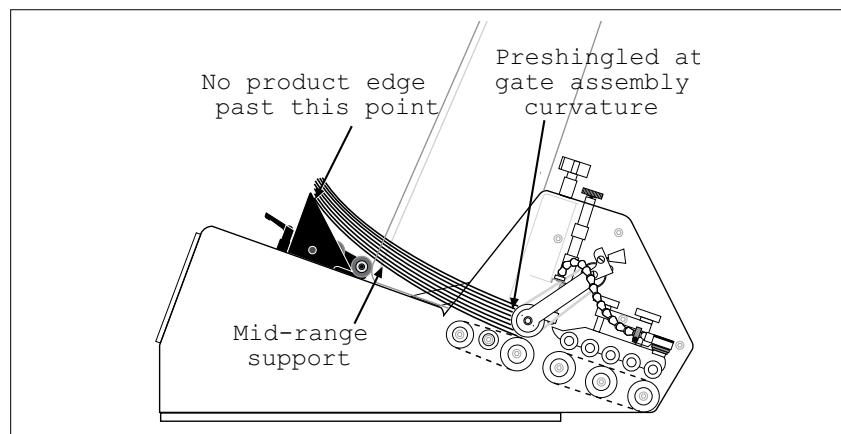

Figure 7-2. Triangle/Low-Profile Wedge Setup
**Setup guidelines:** Adjust so bottom of stack preshingles against the curvature of gate assembly. Make sure edges of product do not touch or overhang tip of triangle wedges, as this creates pressure points. Roller(s) should lift bottom of stack off table top to eliminate friction and create body. See Figure 7-2.